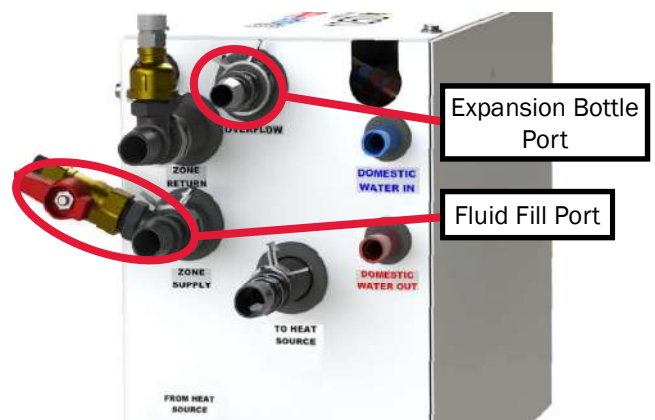

Figure 78
4. Locate the fluid fill port (shown in Figure 78).